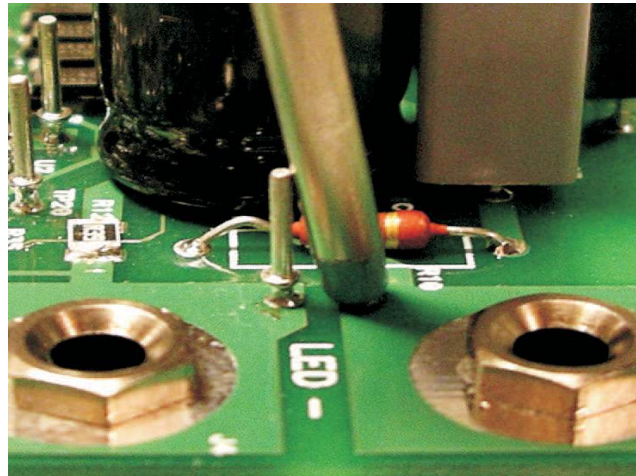

Figure 3. Tip and Barrel Technique for Output Voltage Ripple Measurement
- Expose the ground barrel of the scope probe. Insert the tip of the probe into the plated via located on the LED+ pad of the UCC28810EVM (TP1) and lean the probe so that the exposed ground barrel is resting on the test point pin on the LED- pad of the UCC28810EVM (TP2) for a tip and barrel measurement as shown in Figure 3.